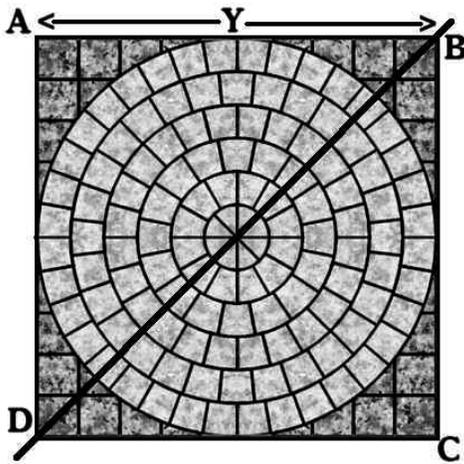

Figure 4: Decorative patio stones
Figure 4 shows a grouping of decorative patio stones. Questions 41 – 44 refer to Figure 4.
41. If the area of the square shown in Figure 4 is 49 ft^2 , what is the length of line Y ?
42. In triangle BDC shown in Figure 4, what is the total measurement of the 3 interior angles?
43. In Figure 4, if the length of line Y is 8 metres, what is the area of the circle? ($\pi = 3.14$)
44. In Figure 4, if line BD has a length of $\sqrt{288}$ ft, what is the length of line Y ?